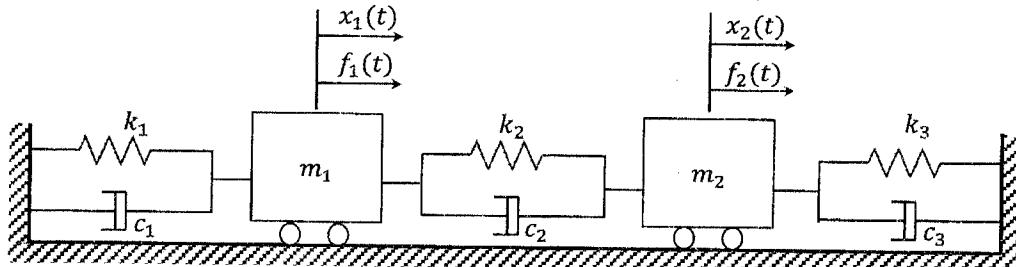

Fig. 4.
- Q6-** Consider a viscously damped two-degree-of-freedom spring-mass system shown in Fig. 4. The motion of the system is completely described by the coordinates $x_1(t)$ and $x_2(t)$ which define the positions of the masses m_1 and m_2 at any time t from the respective equilibrium positions. The external forces $f_1(t)$ and $f_2(t)$ act on the masses m_1 and m_2 , respectively. Find: